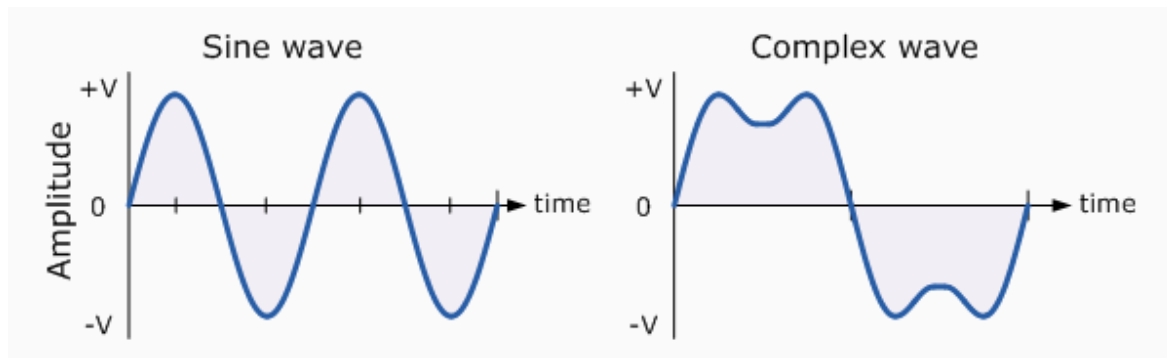

Figure 2. Simple and complex AC waveforms. In each plot the horizontal X-axis represents time [seconds] and the vertical, Y-axis represents voltage [volts].
In operation, the vibrating strings of the instrument (which contain iron and nickel, both magnetic materials) cause the magnetic field of the pickup magnet(s) to fluctuate. This fluctuating magnetic induces free electrons in the coil windings to oscillate creating an alternating current (AC) signal which is the output of the pickup. Note that the pickup’s output is most often a complex AC waveform which may be characterized by its voltage and frequencies as shown in Figure 2.